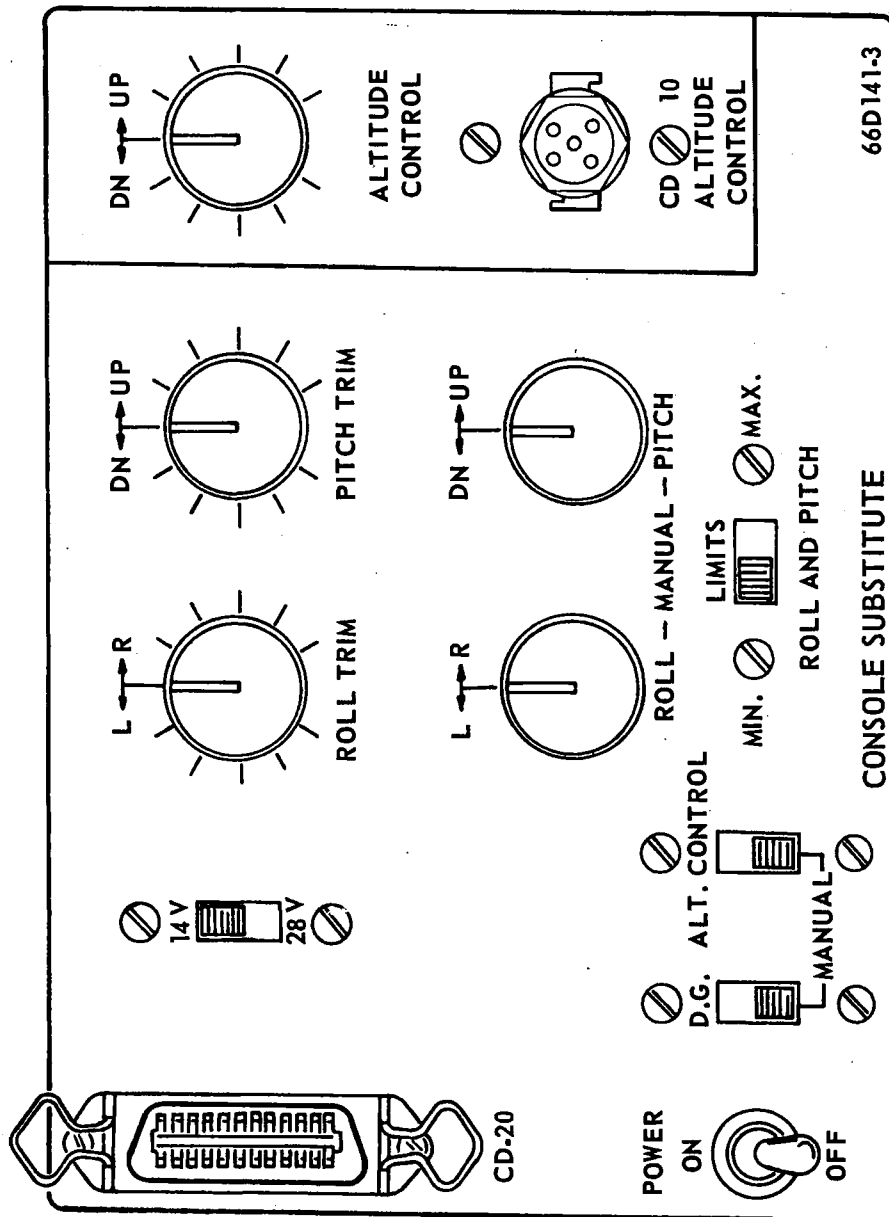

Figure 4-3. Console Substitute
4.4. 66D141-3 CONSOLE SUBSTITUTE. (Refer to Figure 4-3.)